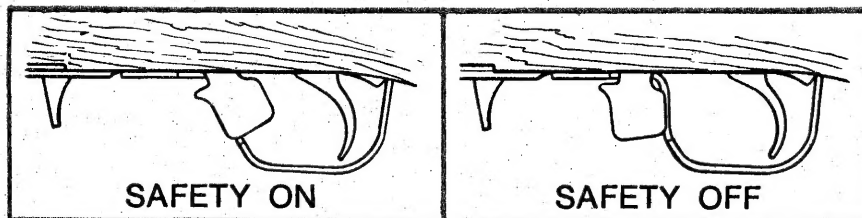

Figure 4. Safety Mechanism
a. **SAFETY MECHANISM** — The manual safety mechanism is located forward of the trigger as illustrated in Figure 4. The safety can be moved to its "ON" position only when the hammer is cocked. When the safety is "ON", it blocks both the hammer and sear. Although the safety mechanism of the AC-556 and AC-556K selective fire rifles is correctly designed and fitted, the user should never depend on it, *or any other mechanical device* to justify careless handling or pointing the rifle in an unsafe direction.
4. When you are ready to fire the rifle, move the safety to the "OFF" position (forward) (See Figure 4).
6. To unload the rifle, place the safety in its "ON" position (see Figure 4), remove the magazine and pull the slide handle all the way to the rear, extracting and ejecting the cartridge in the chamber.
5. When you are ready to fire the rifle, move the safety to the "OFF" position (forward) (see Figure 4).
8. Place the Safety in its "ON" position (See Figure 4.)